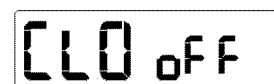

Fig. 2
2. Use the +hi & -lo to toggle to the CLO off option -Fig. 2-	+hi or -lo